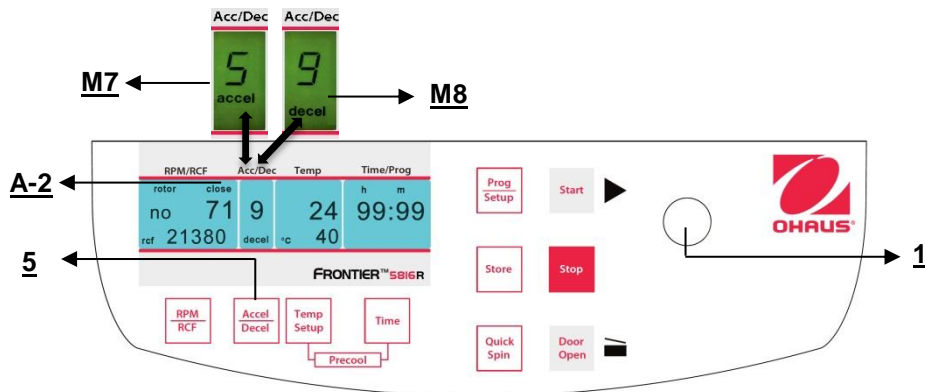

Figure. 18
This function is activated through the key "Accel/Decel" (5) (refer to figure18).